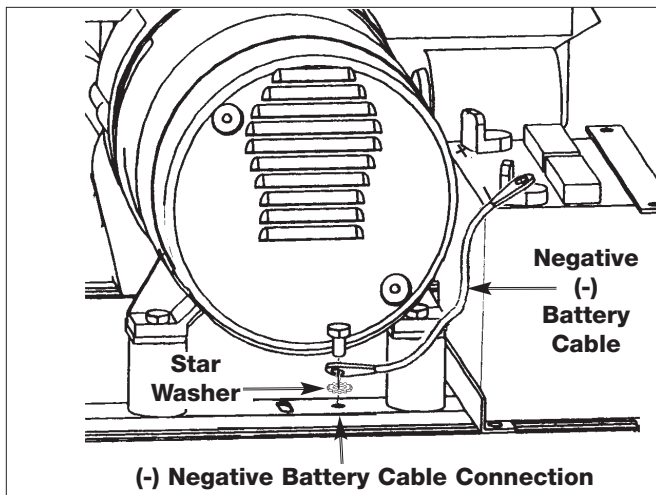

Figure 6
8. Attach the other end of the negative (black) cable to the frame as shown. Install the star washer between the cable and the frame. See Figure 6.